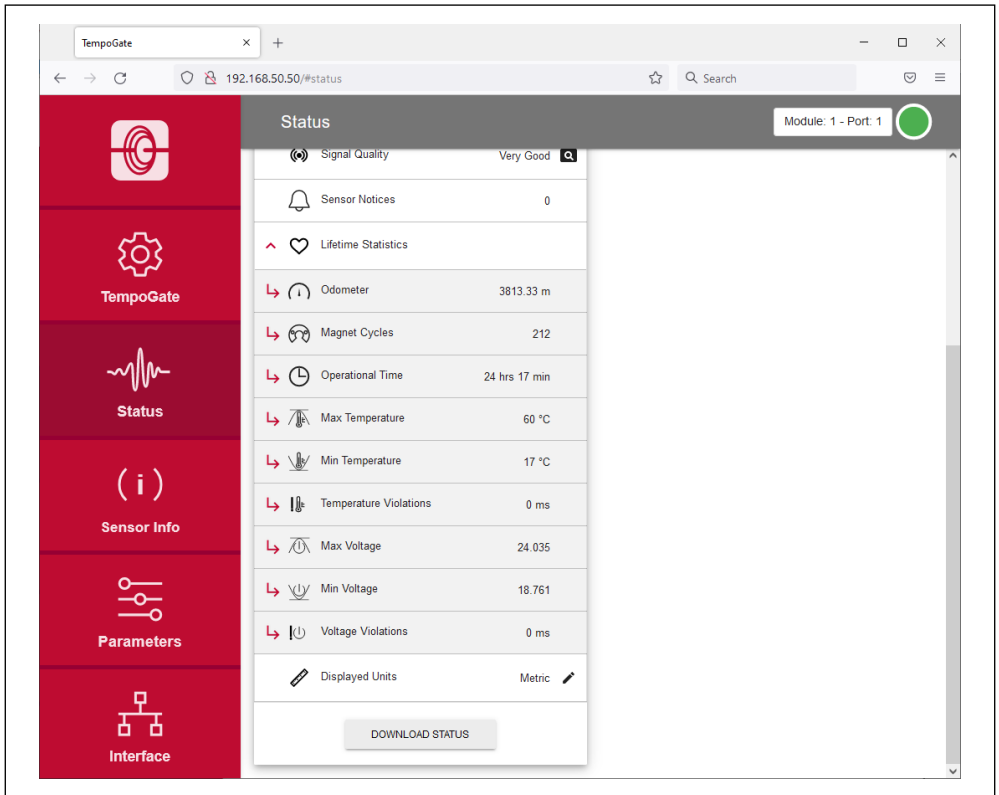

Fig. 36: Values under "Lifetime Statistics"
- **Lifetime Statistics:** By clicking the red arrow on the left information about the sensor statistics is displayed (depending on the connected sensor) (Fig. 36):